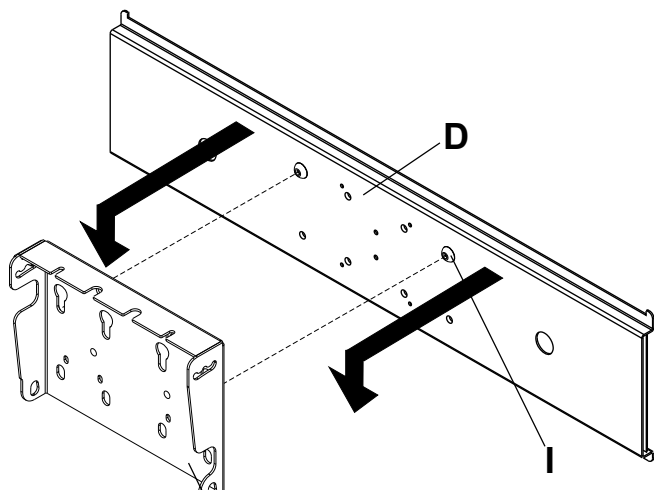

fig. 7.1
- 7** Thread two M10 x 15 mm screws (**I**), leaving .25" exposed thread, into top holes on back of adapter plate (**D**). Hook adapter plate (**D**) to mounting plate and attach using two bottom M10 x 15 mm screws (**I**) as shown in figures 7.1 and 7.2. Tighten screws using 6 mm allen wrench (not included).